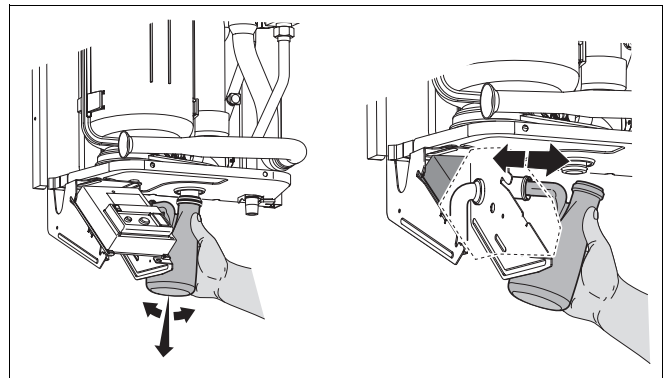

Fig. 37 Removing the condensate trap
- Remove the trap and withdraw it from the outlet see fig. 37.